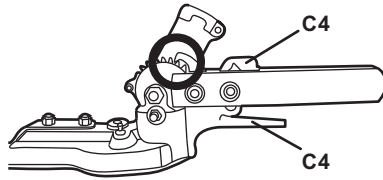

Fig.18c
3. Release the unlock levers (C4) when the desired angle is adjusted. Ensure that the hook engages between two teeth of the tooth wheel. (See Fig. 18c)